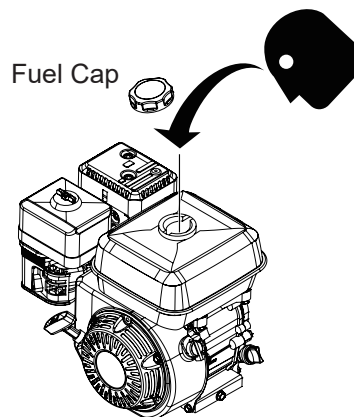

Fig. 2
- Visually check fuel level. If fuel level is low, refuel with unleaded fuel. (Fig. 2)